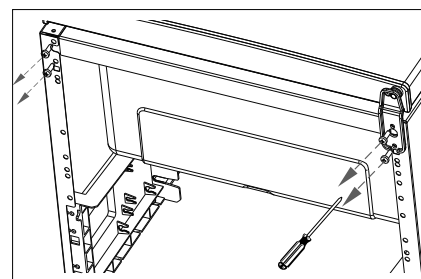

Fig. 2
- ▶ Use a Phillips screwdriver to loosen the two screws on the lower hinge (Fig. 2).